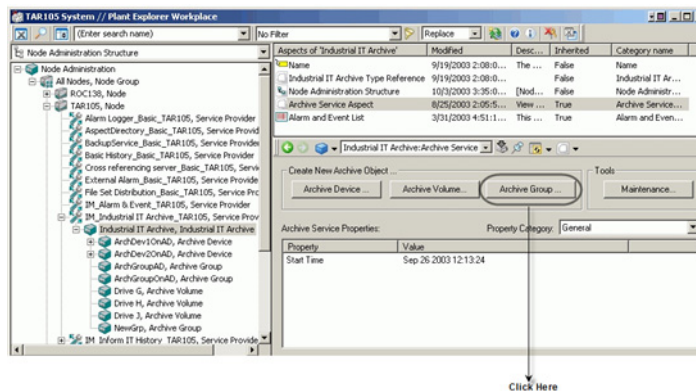

Figure 51. Creating a New Archive Group
5. Click **Archive Group**, Figure 51.